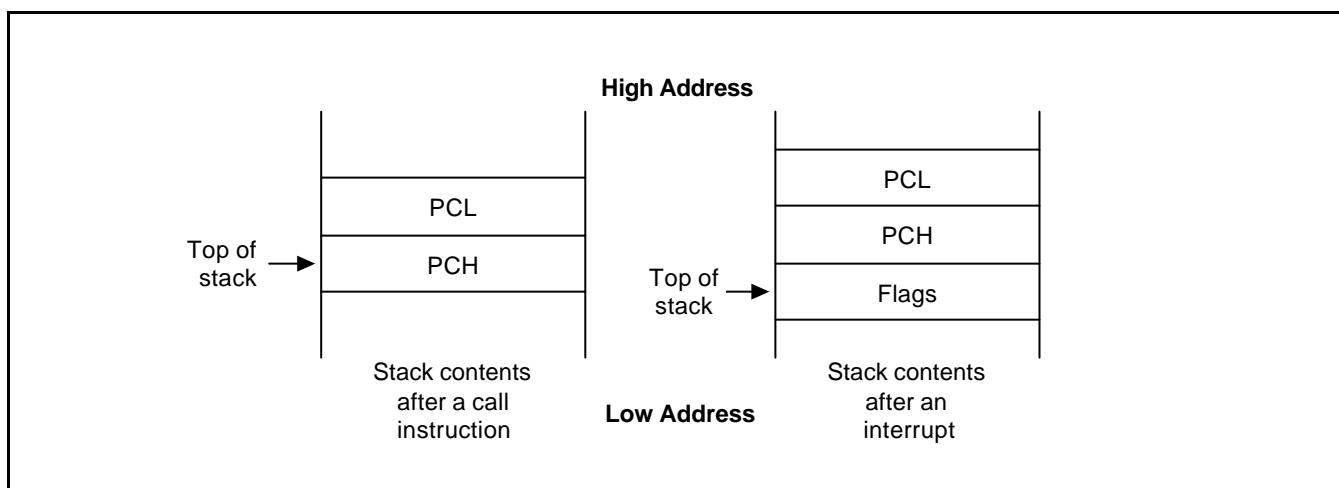

Figure 2-5. Stack Operations
Return addresses for procedure calls and interrupts and data are stored on the stack. The contents of the PC are saved to stack by a CALL instruction and restored by the RET instruction. When an interrupt occurs, the contents of the PC and the FLAGS register are pushed to the stack. The IRET instruction then pops these values back to their original locations. The stack address is always decremented before a push operation and incremented after a pop operation. The stack pointer (SP) always points to the stack frame stored on the top of the stack, as shown in Figure 2-5.